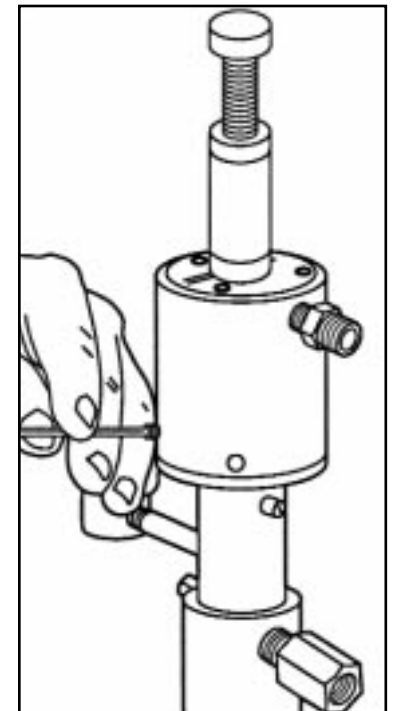

Figure 38
1. For all pumps except the P250K, use a 1/8" Allen wrench to remove the motor cylinder set screws that hold the motor cylinder to the oil chamber body. In the "D" series the screws are on the bottom of the motor cylinder and on the "W" series they are on the side. For the P250K, unscrew the motor cylinder from the oil chamber body. For all pumps, hold the motor cylinder firmly to avoid losing the motor return spring. (Fig.38 & 39)